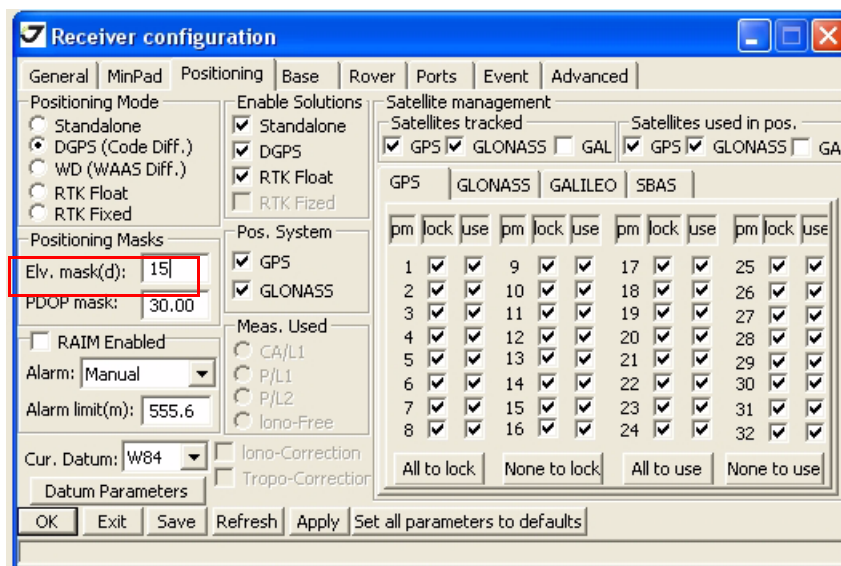

Figure 3-4. Configure Receiver Positioning – Elevation Mask
- Click the *Positioning* tab and set the Elevation mask to 15 (Figure 3-4), then click *Apply*.